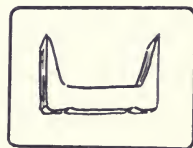

Fig. 178. Pinch-Dog
*Pinch-dogs*, Fig. 178, are a convenient device for drawing together two pieces of wood, when injury to the surfaces in